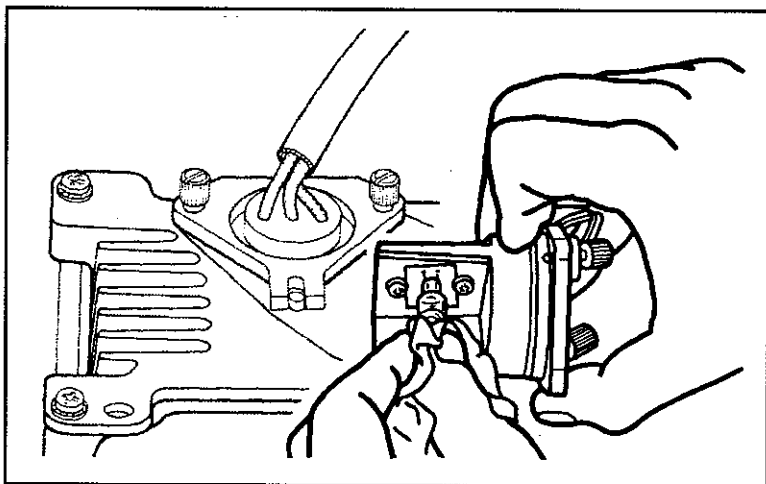

Figure 12-10.
5. Carefully remove the old source by pulling straight out. Unpackage the new source, being careful not to touch the glass envelope on the source. Hold the source with a tissue or Kim-Wipe and insert it into the source mount in the same location as the old source. See Figure 12-10.